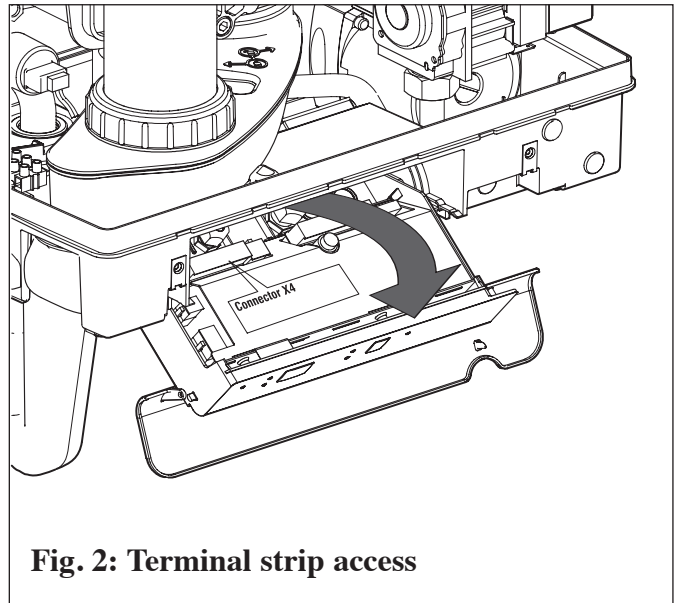

Fig. 2: Terminal strip access
4. Pull the Control Display Module tray out from the bottom jacket panel and swing the tray downward. The guide pins on the front of the tray should disengage the bottom panel (Fig.2).